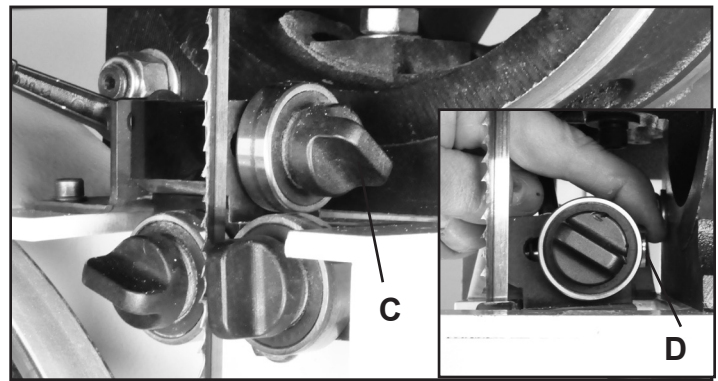

FIGURE 27 NOTE: Blade Guard removed for photo purposes
4. Adjust the rear bearing guide to be just clear of the back of the saw blade. Release the guide's Locking Handle (Fig. 27, C) and move the rear guide towards the blade by pushing the end of the Rear Guide Shaft (#31E, D), or use the lock handle to pull the guide towards the blade. Tighten the handle when done.